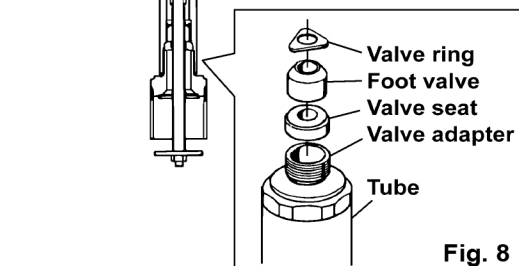

Fig. 8
- 7) Fix the cylinder part of the lower pump on vise. Set a spanner on the valve adapter and unscrew it. The valve seat, the foot valve and the valve ring can be removed. (Fig. 8)